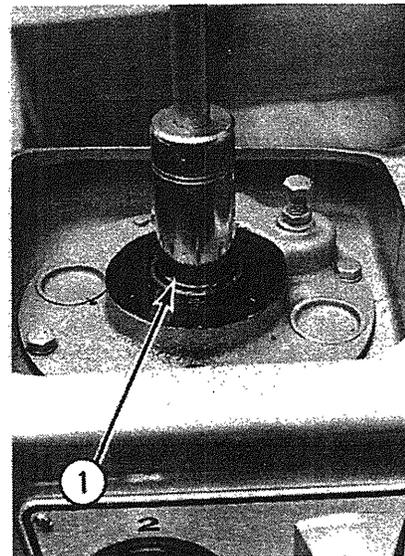

Fig. 3-3
- B. Remove stop nut from center shaft (1, Fig. 3-3). To loosen turn in clockwise direction. This nut has a LEFT HAND THREAD. If nut will not loosen, put the flat "B" beater on and hold it while loosening the nut.